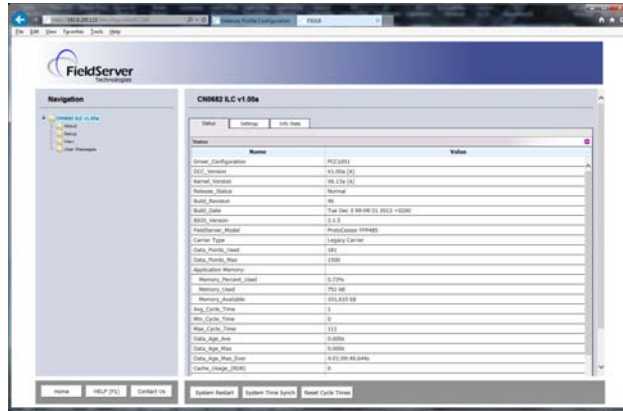

Figure 2 FieldServer GUI Screen
- Click on the “Diagnostics & Debugging” button located in the lower right corner to open the FieldServer GUI app as shown in Figure 2.